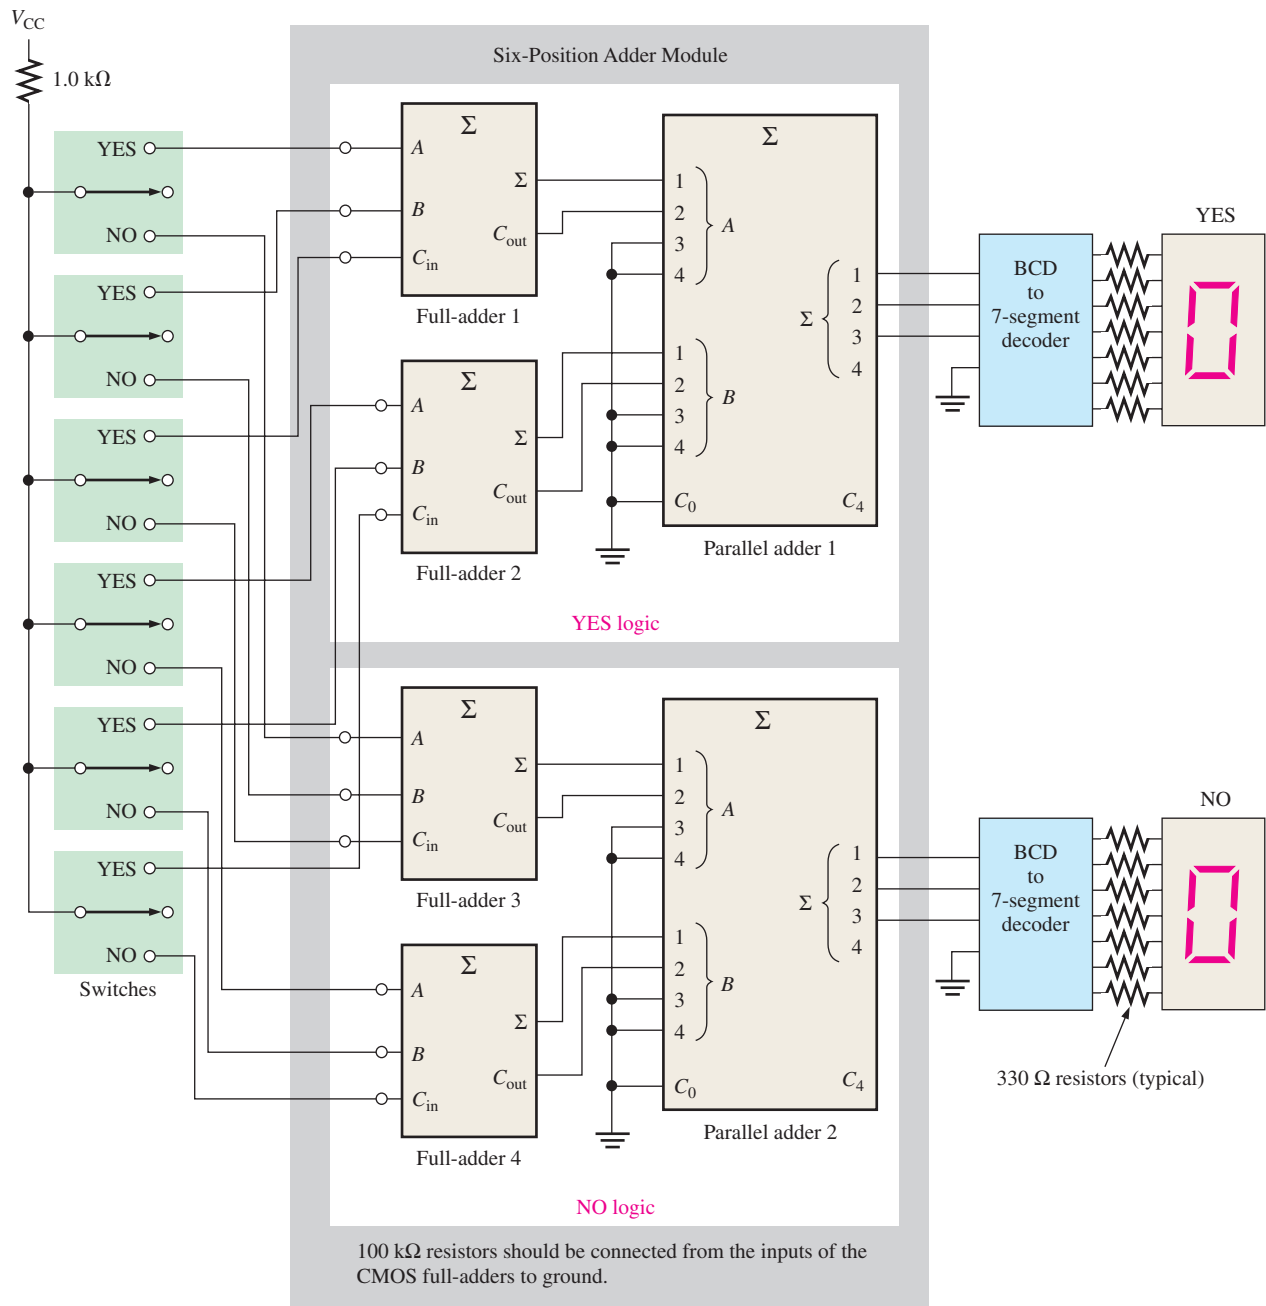

FIGURE 6-13 A voting system using full-adders and parallel binary adders.
In its simplest form, the system includes a switch for “yes” or “no” selection at each position in the assembly and a digital display for the number of yes votes and one for the number of no votes. The basic system is shown in Figure 6-13 for a 6-position setup, but it can be expanded to any number of positions with additional 6-position modules and additional parallel adder and display circuits.
In Figure 6-13 each full-adder can produce the sum of up to three votes. The sum and output carry of each full-adder then goes to the two lower-order inputs of a parallel binary adder. The two higher-order inputs of the parallel adder are connected to ground (0) because there is never a case where the binary input exceeds 0011 (decimal 3). For this basic 6-position system, the outputs of the parallel adder go to a BCD-to-7-segment decoder that drives the 7-segment display. As mentioned, additional circuits must be included when the system is expanded.